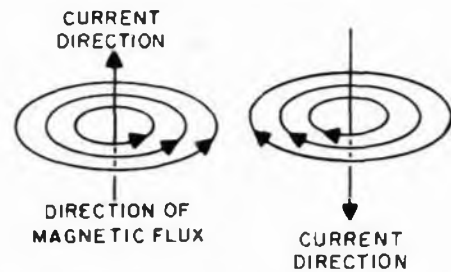

Fig. 20. Direction of flux lines is changed by direction of the current. Heavy current is needed to make flux lines visible with sprinkled filings.
**Electromagnetism.** Any electrical conductor through which flows an electrical current will generate a magnetic field about it which is perpendicular to its axis as shown in Fig. 20. The direction of this field is dependent upon the direction of current flow, and the magnetic field strength proportional to the current strength. If this current-carrying conductor is wound into a coil, forming a solenoid, the magnetic field will be increased by each individual turn that is added. If an iron core is inserted in this current-carrying coil, the generated field will be increased still further. This is because the lines of force are concentrated within the iron core which has considerably less reluctance than the surrounding air.